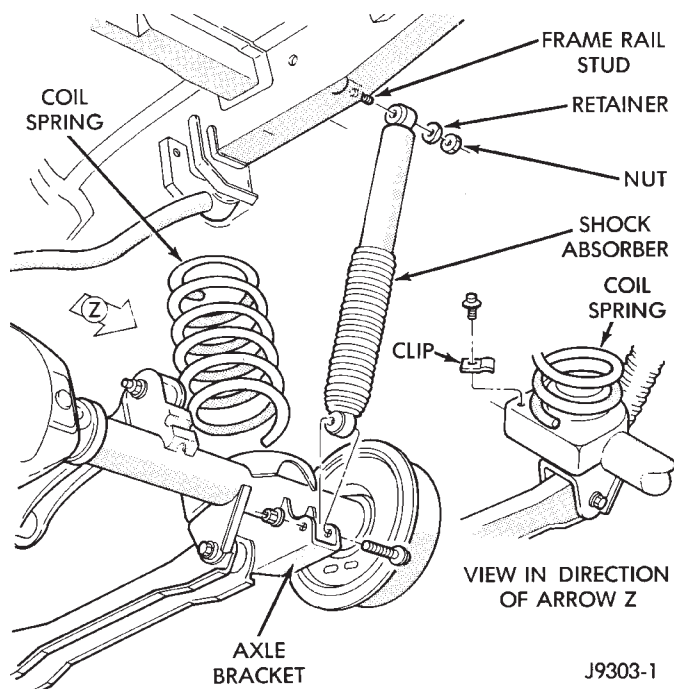

Fig. 2 Rear Coil Spring & Shock Absorber
- (1) Raise and support the vehicle. Position a hydraulic jack under the axle to support it.
- (2) Remove the upper nut and retainer from the frame rail stud (Fig. 2).
- (3) Remove the lower nut and bolt from the axle bracket. Remove the shock absorber.
- (2) Disconnect the stabilizer bar link and shock absorber from the axle bracket.
- (3) Disconnect the track bar from the frame rail bracket.
- (4) Lower the axle until the spring is free from the upper mount seat. Remove the coil spring retainer bolt (Fig. 2) and remove the spring.